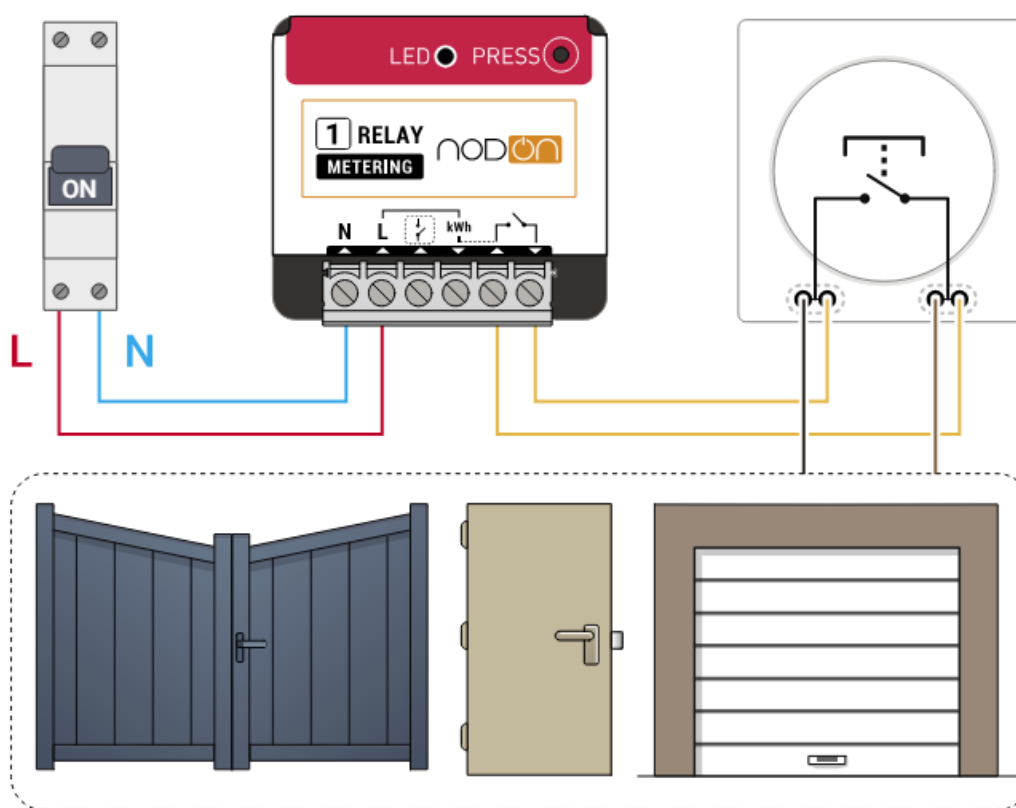

Figure 3
3. Wire the Zigbee Multifunction Relay Switch with metering, in parallel to the push-button following the diagram Figure 3.